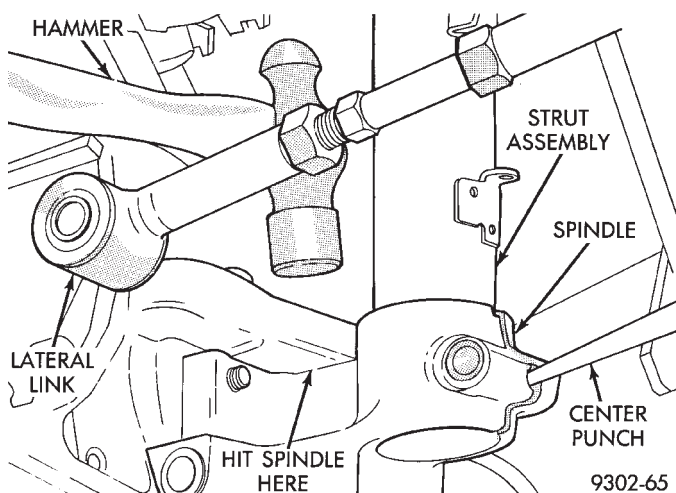

Fig. 8 Removing Spindle From Strut Assembly
(10) Using a hammer, tap on top surface of spindle driving it down and off the end of the strut assembly (Fig. 8).